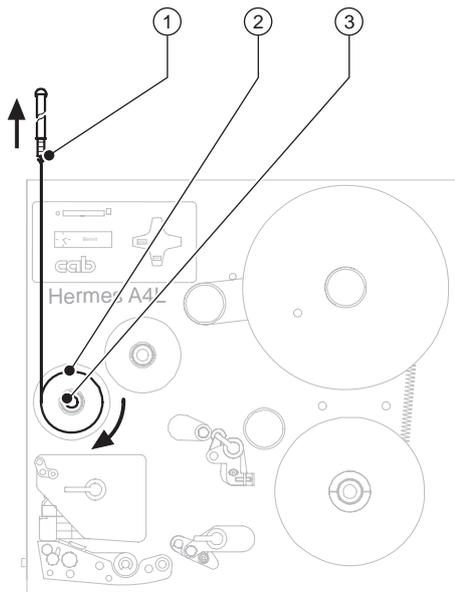

Bild 5e Wickelmoment Transferfolienaufwickler im Uhrzeigersinn
**Note the wind direction as shown in the figure 5e!**
7. Attach the spring balance (1), 5 N, to the end of the string and move it vertically upwards until the hub starts to rotate.